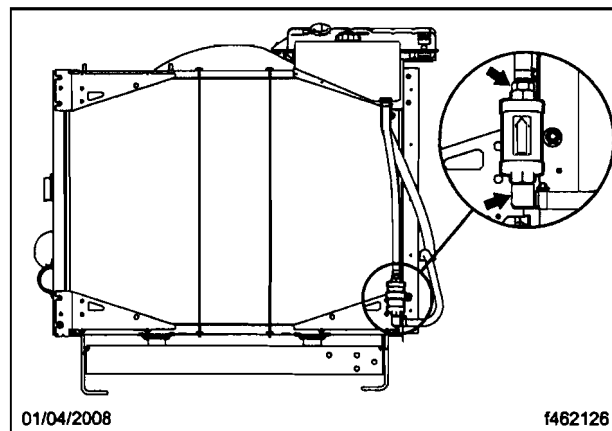

Fig. 1, Hydraulic Oil Filter Fittings that Must be Removed.
7. Remove the two fittings from the old hydraulic oil filter, and save them for installation on the new hydraulic oil filter. See **Fig. 1**.